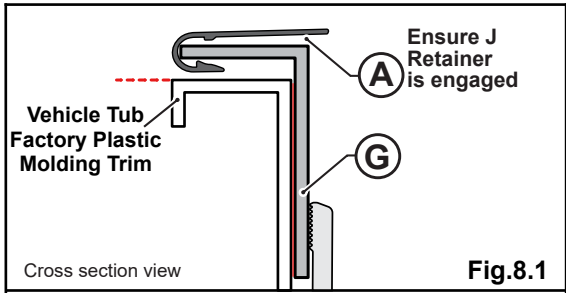

Fig. 8.1
- Attach the plastic J Retainer on front of the Tonneau Cover (A) to front lip of Front Rail (G) on Ute tub located behind the cab window. Fig 8.1 shows the cross section view.